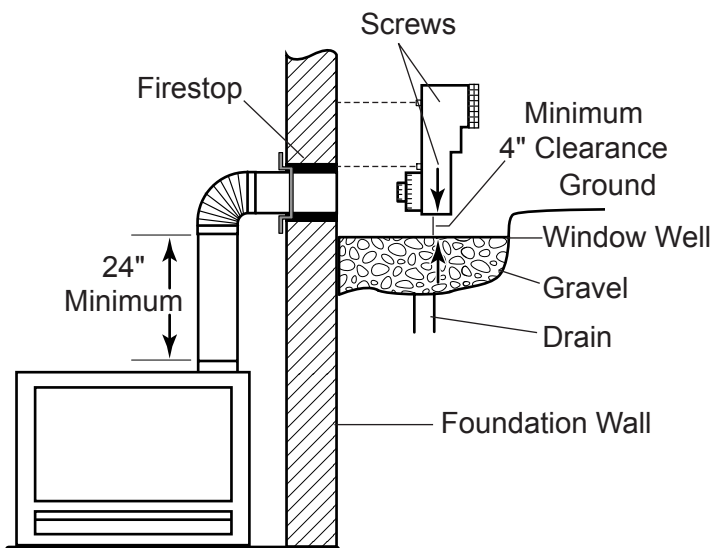

Figure 31 - Below Grade Installation
6. Level the soil so as to maintain a 4" clearance below snorkel. *See Figure 31.*